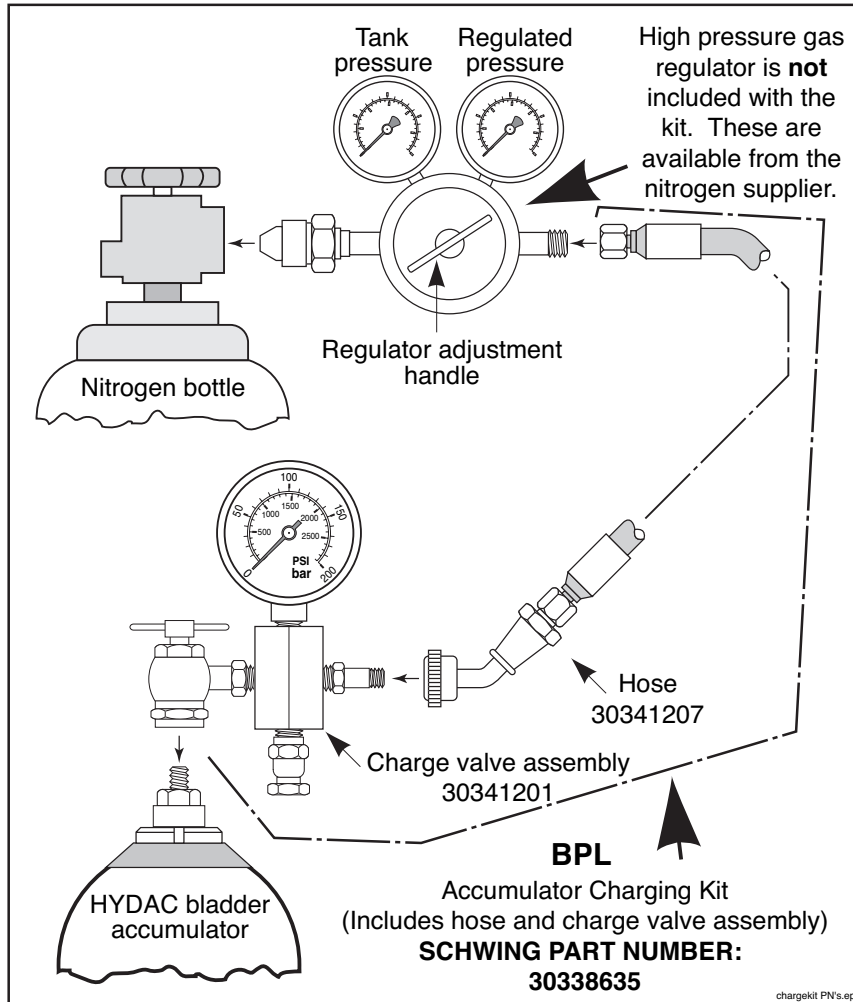

Figure 37
1. Before you begin, you will need a charging kit (Figure 37). Do not attempt to charge the accumulators without one. You can order the charge valve assembly from Schwing America using part number 30338635. There is also a kit available directly from Hydac. Hydac Corporation can be reached at (610) 264-9503. The Hydac part number is FPS 250 F 2.5 G4 K.